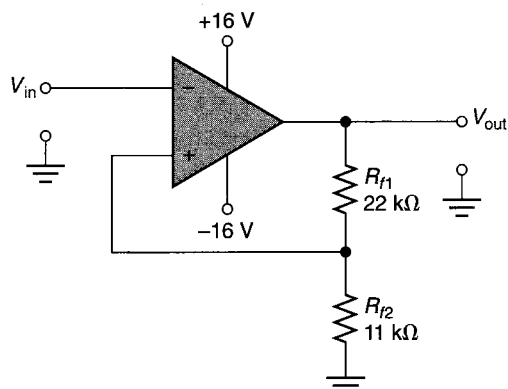

FIGURE 19.61
27. Determine the UTP and LTP values for the Schmitt trigger in Figure 19.61.